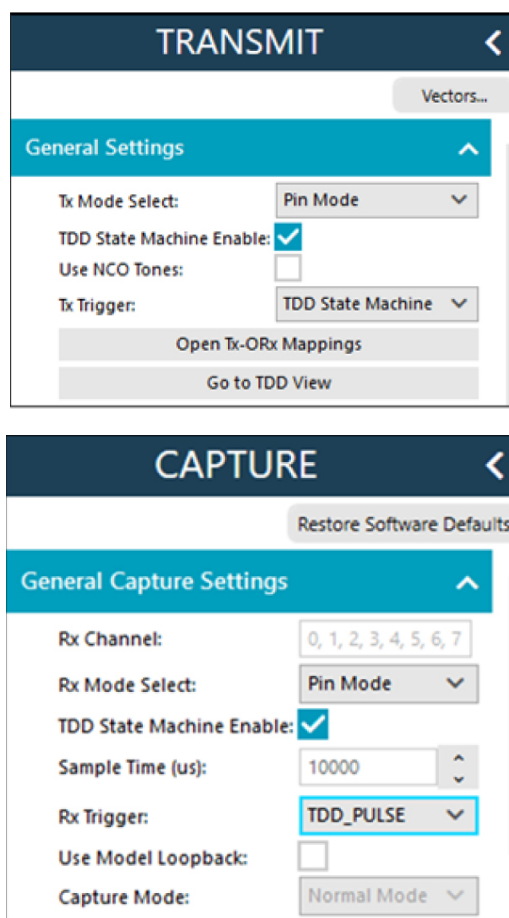

Figure 51. Runtime Pages Updated to Trigger Data Source and Capture Using the TDD State Machine for Rx
3. Click **Configure** to configure the TDD state machine using the specified timings, which enables the TDD state machine (the **Enable TDD FSM** checkbox). To perform data sourcing and capture in TDD mode, the user must additionally modify capture settings on the **Runtime** pages, as illustrated in Figure 51.